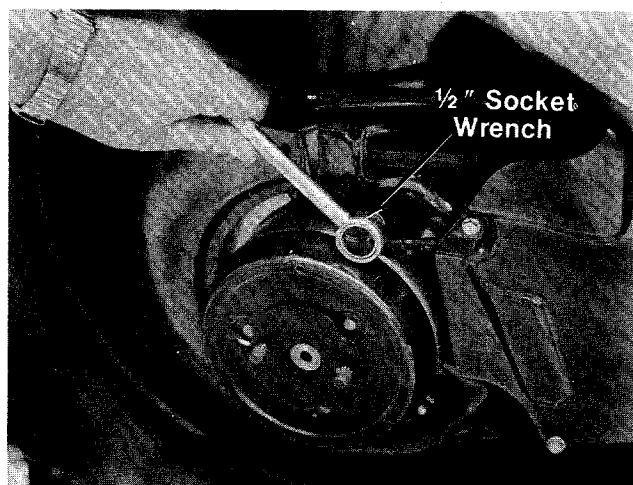

FIGURE 30.
11. Support the engine with one hand. Remove the three self-tapping screws which secure the deck and blade brake/clutch to the engine. A 1/2" socket wrench is required. See figure 30.